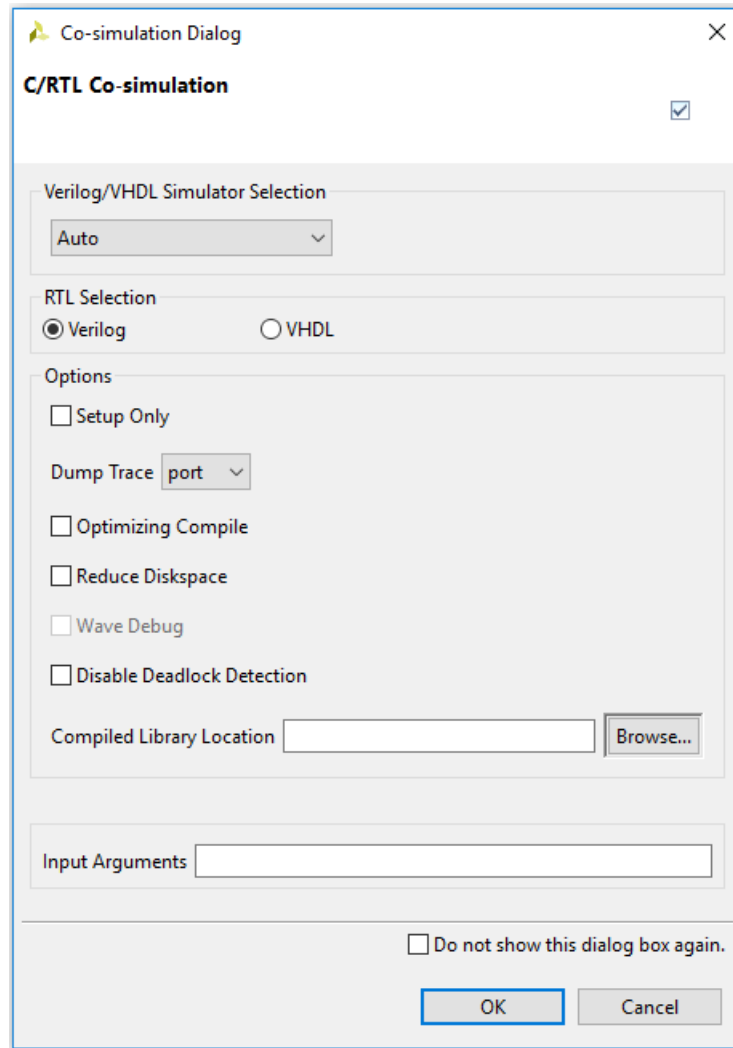

Figure 8-11: Co-simulation Dialog Box for Lab 2
- b. Activate the **Dump Trace** drop-down menu and select the **all** option, to have the options shown in Figure 8-11.